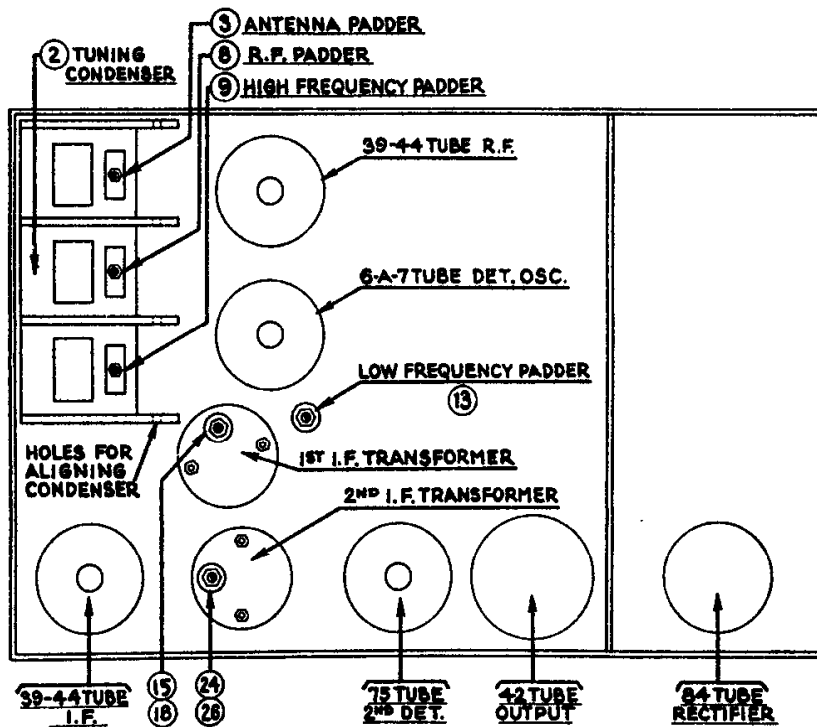

Fig. 43. Model 10 — I.F. 260 K.C.
Set up the signal generator and adjust it to exact 260 K. C. Connect signal generator lead to the grid cap of the 6A7 tube. (See Fig. 43). The output meter must be connected by means of an adapter to the speaker prong and to the chassis.
The condensers 24 and 26 are adjusted first (Fig. 43). Turn the adjusting screw all the way in. A metal screw driver can be used for this. Then, with signal generator attenuator set so there
H. F. There are four holes in line, one in each of the sections of the tuning condenser housing. (See Fig 43) Place a nail of the size that fits snugly through the holes and then turn the condenser plates out of mesh until they strike against the nail.